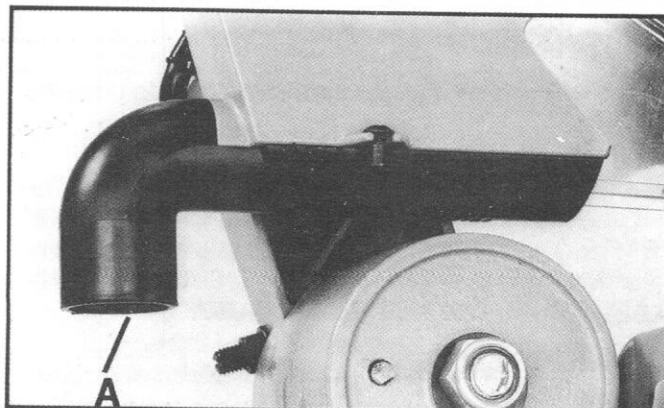

Fig. 10
A dust chute (A) Fig. 10, is provided on the back of the saw guard. The diameter of the opening of the dust chute is 1½" O.D. and can be connected to a dust collection system.